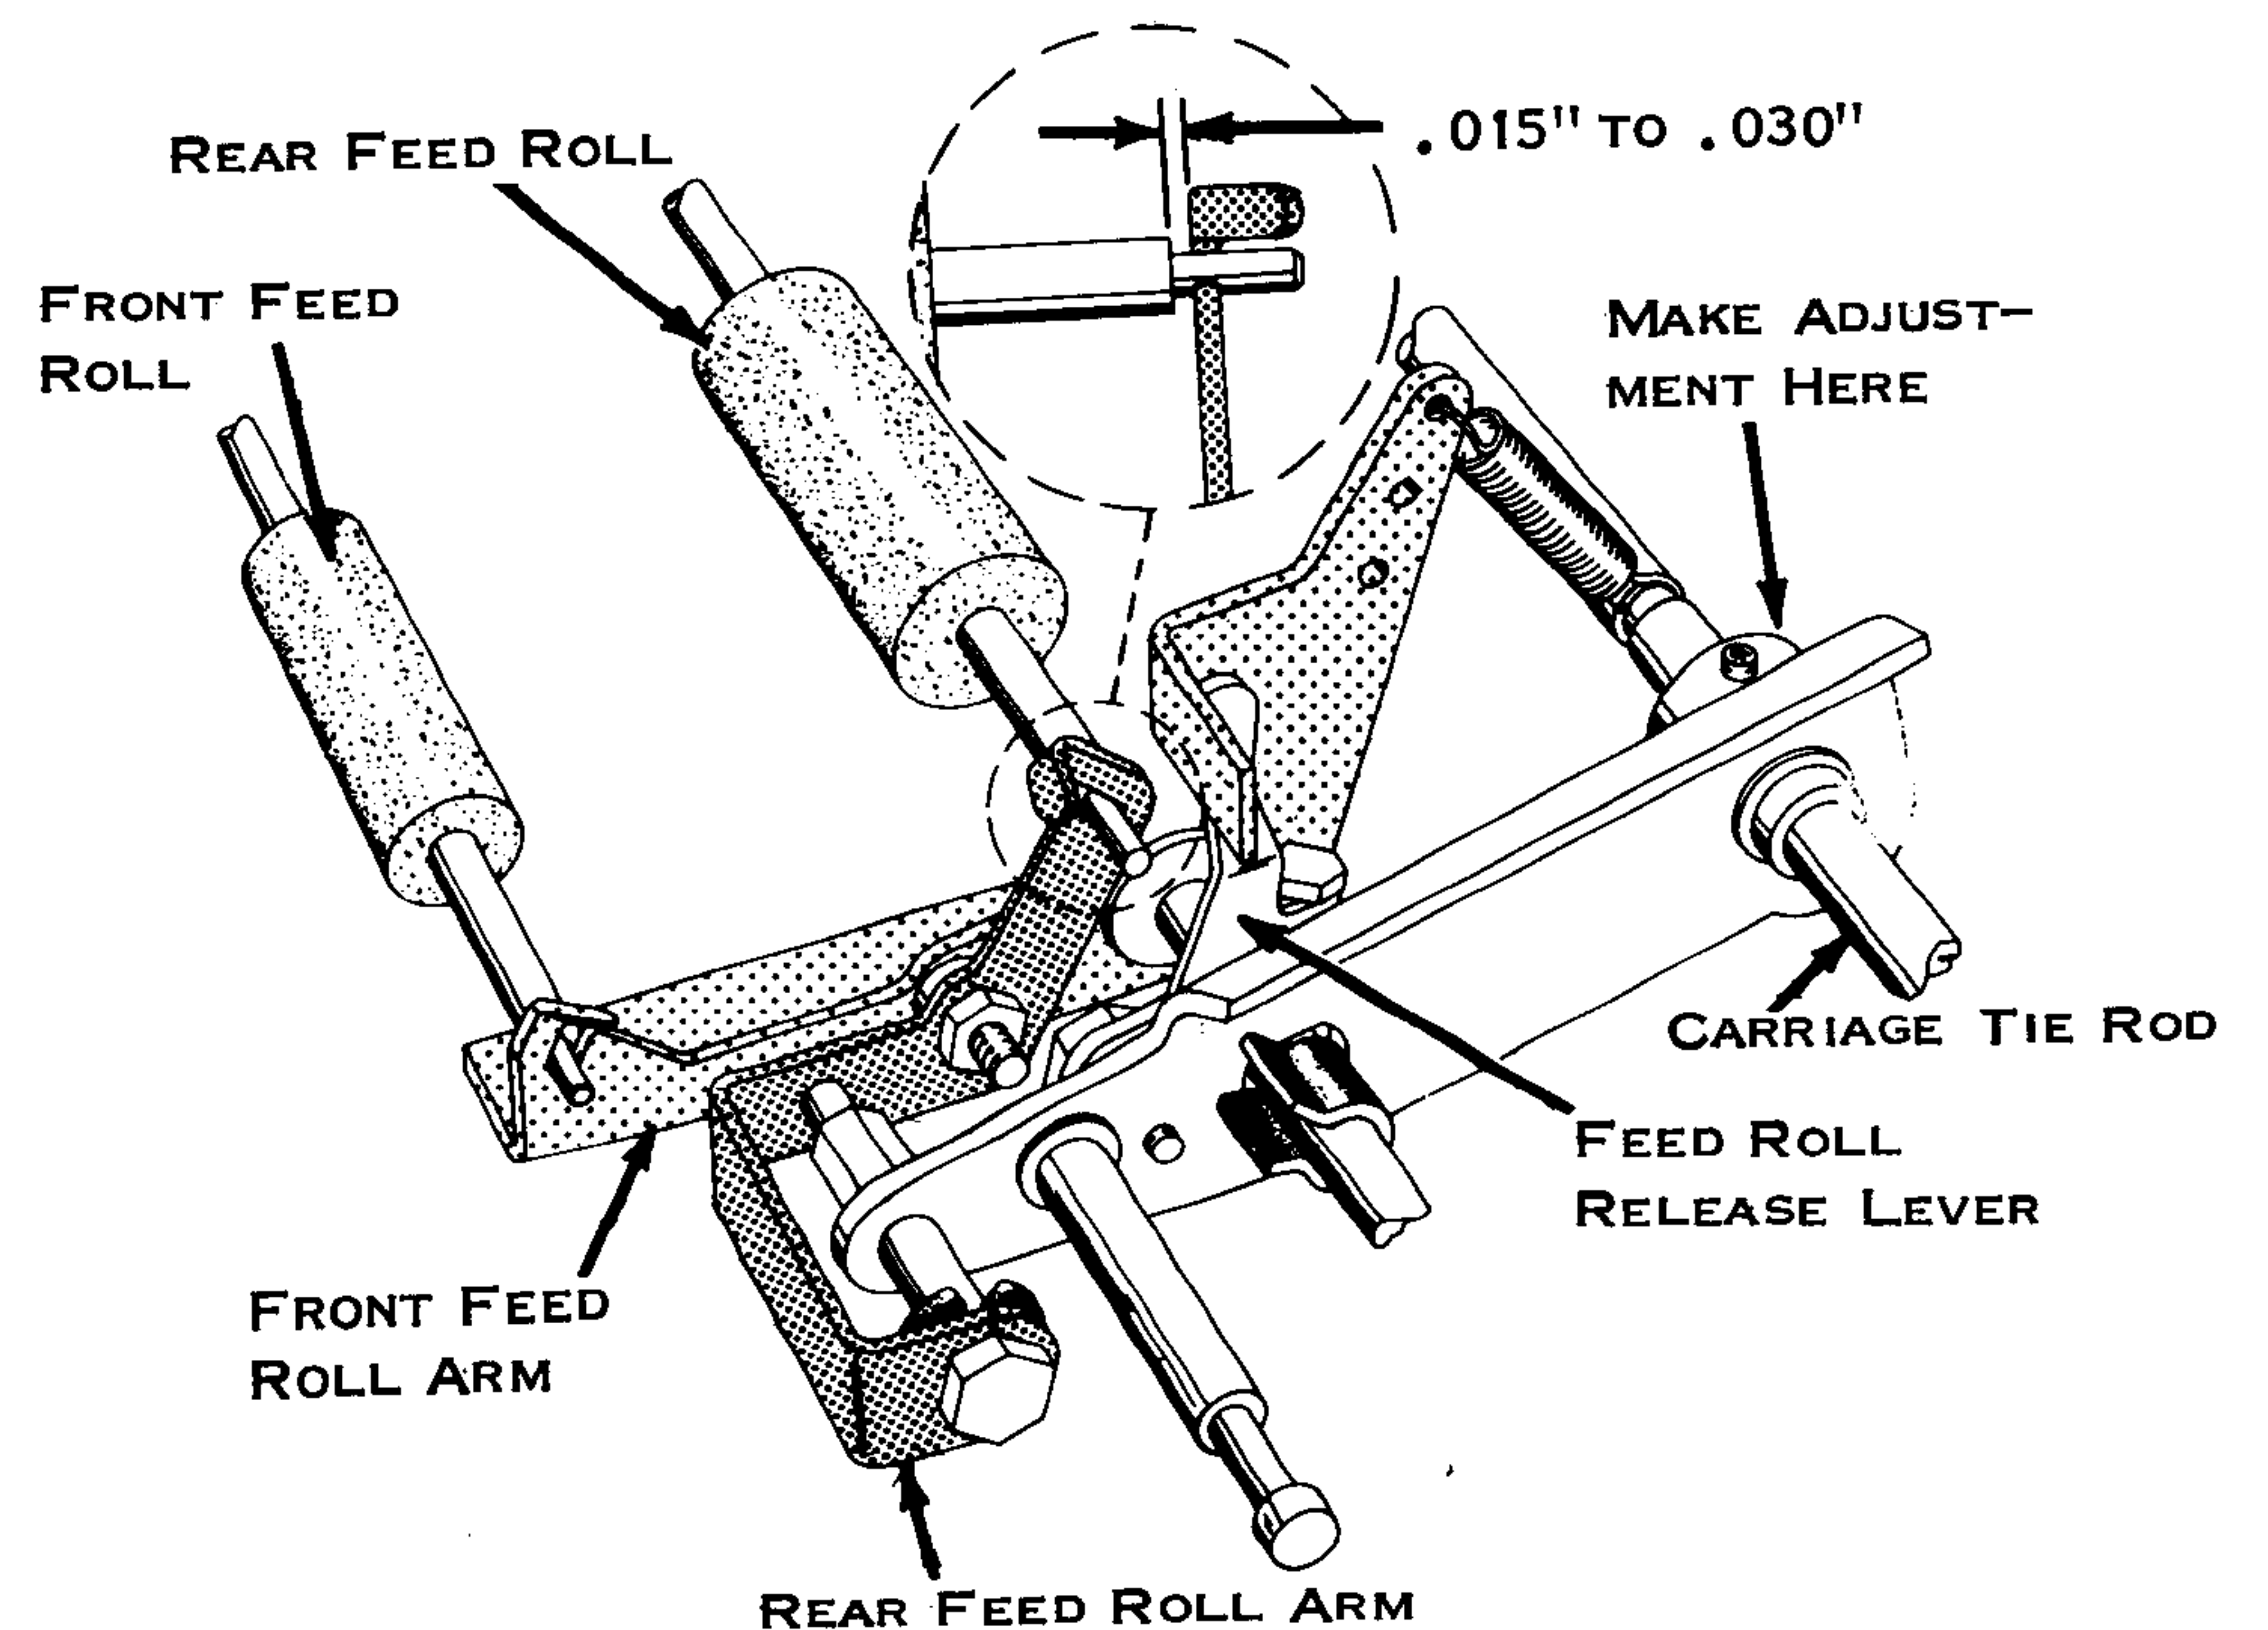

Figure 197. Paper Feed Mounting Arm
6. Paper Feed Braces and Supports (Fig. 197) - The adjustable braces that connect the carriage tie rods to the feed roll actuating shaft should be adjusted as long as possible without deflecting either rod. With the feed roll tension springs disconnected, the supports for the carriage tie rods and feed roll actuating shaft should be adjusted to just touch the bottom of each shaft. The tension springs should be placed in the hole that will provide 3-1/4 pounds for the 11" and 2-3/4 pounds for the 15" machine on the front feed rolls.
7. Paper Feed Mounting Arm (Fig. 197) - The right hand paper feed mounting arm should be adjusted left or right so that the rear feed roll has an end play of .015" to .030" when the feed roll is against the platen.